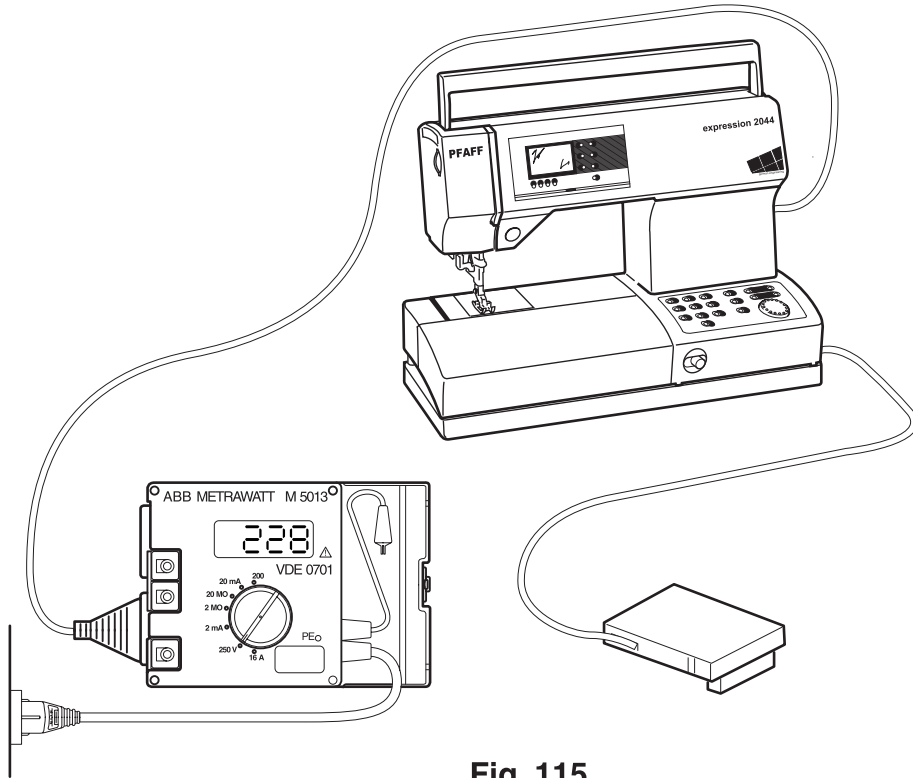

Fig. 115
- For all following tests insert plug of ABB Metrawatt M 5013 in the grounded mains socket (fig. 115).
- Set knob for measuring range at "250 V" (fig. 115). If there is mains voltage, the LCD shows the respective value (230 V +/- 10%).